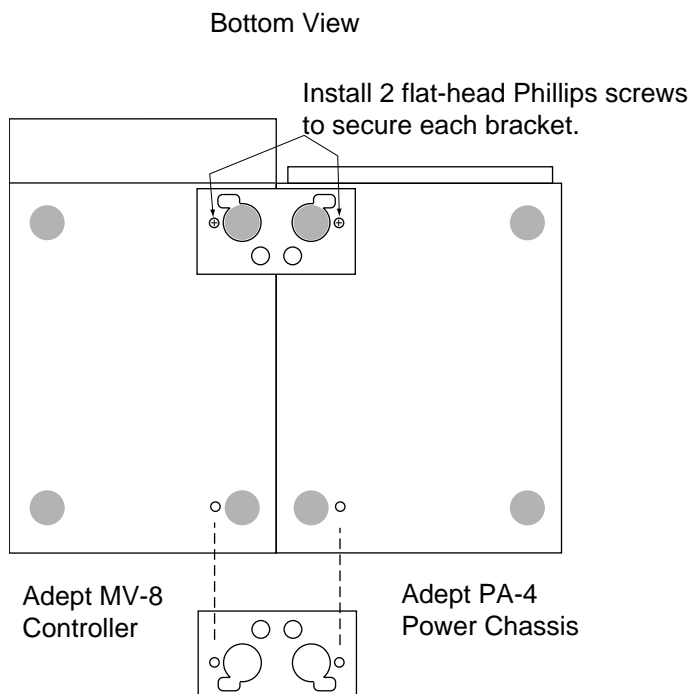

Figure 5-3. **Joining the Power Chassis and Controller at the Bottom**
3. Place the brackets over the feet of the units as shown in Figure 5-3.
4. Install the four M4 x 8 flat head screws in the holes indicated in Figure 5-3 to secure the brackets.